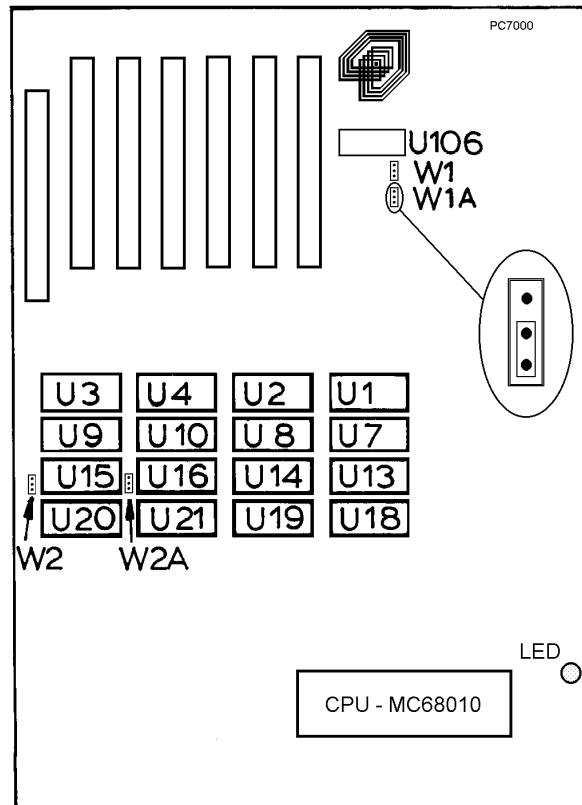

Figure 8-2: Main Board - Memory
Turn on the controller. Check the red LED on the main board, as shown in Figure 8-2. If it remains lit, the CPU is in the HALT state. Turn off the controller and remove all the driver cards. (For instructions on removing driver cards, refer to the section, “Adjustments and Repairs,” later in this chapter.) Then turn the controller on again.
- Hardware: Refer to Figure 8-2. Make sure *all four jumpers* for configuring user RAM (W1, W1A, W2, W2A) are set for 128K RAM. The two lower pins must be shorted.